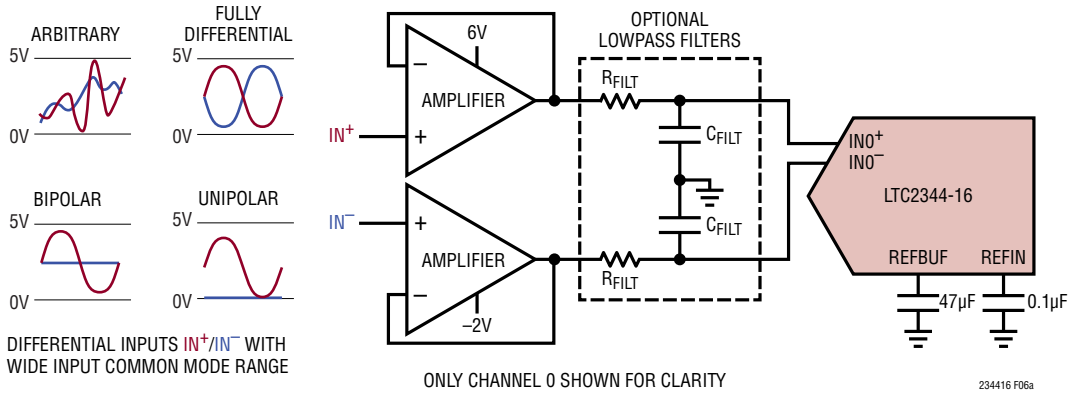

Figure 6a. Buffering Arbitrary, Fully Differential, Bipolar, and Unipolar Signals. See Table 2 For Recommended Amplifier and Filter Combinations
applications, connecting a channel's  $IN^+$  and  $IN^-$  pins directly to the existing signal chain circuitry will not allow the channel's sampling network to settle to 16-bit resolution within the ADC acquisition time ( $t_{ACQ}$ ). In these cases, it is recommended that two unity-gain buffers be inserted between the signal source and the ADC input pins, as shown in Figure 6a. Table 2 lists several amplifier and lowpass filter combinations recommended for use in this circuit. The LT6237 combines fast settling, high linearity, and low offset with  $1.1\text{nV}/\sqrt{\text{Hz}}$  input-referred noise density, enabling it to achieve the full ADC data sheet SNR and THD specifications, as shown in the FFT plots in Figures 6b to 6e. In applications where slightly degraded SNR performance is acceptable, it is possible to drive the LTC2344-16 using the lower-power LT6234. The LT6234 combines fast settling, good linearity, and low offset with  $1.9\text{nV}/\sqrt{\text{Hz}}$  input-referred noise density, enabling it to drive the LTC2344-16 with 1.5dB SNR loss compared with the LT6237 when a  $24.9\Omega$ ,  $1\text{nF}$  filter is employed. As shown in Table 2, the LT6237 may be used without a lowpass filter at a loss of  $<1\text{dB}$  SNR due to increased wideband noise.
**Table 2. Recommended Amplifier and Filter Combinations for the Buffer Circuits in Figures 6a and 9. AC Performance Measured Using Circuit in Figure 6a,  $\pm 4.096\text{V}$  Range for Fully Differential Input Drive,  $\pm 2.048\text{V}$  Range for Bipolar Input Drive**
Figure 6b. Two-Tone Test.  $IN^+ = -7$ dBFS 2kHz Sine,  $IN^- = -7$ dBFS 3.1kHz Sine, 32k Point FFT,  $f_{SAMPL} = 400$ ksps. Circuit Shown in Figure 6a with LT6237 Amplifiers,  $R_{FILT} = 24.9\Omega$ ,  $C_{FILT} = 1$ nF
Figure 6c.  $IN^+/IN^- = -1$ dBFS 2kHz Fully Differential Sine, Common Mode = 2.5V, 32k Point FFT,  $f_{SAMPL} = 400$ ksps. Circuit Shown in Figure 6a with LT6237 Amplifiers,  $R_{FILT} = 24.9\Omega$ ,  $C_{FILT} = 1$ nF
Figure 6d.  $IN^+ = -1$ dBFS 2kHz Bipolar Sine,  $IN^- = 2.5$ V, 32k Point FFT,  $f_{SAMPL} = 400$ ksps. Circuit Shown in Figure 6a with LT6237 Amplifiers,  $R_{FILT} = 24.9\Omega$ ,  $C_{FILT} = 1$ nF
Figure 6e.  $IN^+ = -1$ dBFS 2kHz Unipolar Sine,  $IN^- = 0$ V, 32k Point FFT,  $f_{SAMPL} = 400$ ksps. Circuit Shown in Figure 6a with LT6237 Amplifiers,  $R_{FILT} = 24.9\Omega$ ,  $C_{FILT} = 1$ nF
While the circuit shown in Figure 6a is capable of buffering single-ended input signals, the circuit shown in Figure 10 is preferable when the single-ended signal reference level is inherently low impedance and doesn't require buffering. This circuit eliminates one driver and lowpass filter, reducing part count, power dissipation, and SNR degradation due to driver noise. Using the recommended driver and filter combinations in Table 2, the performance of this circuit with single-ended input signals is on par with the performance of the circuit in Figure 6a.